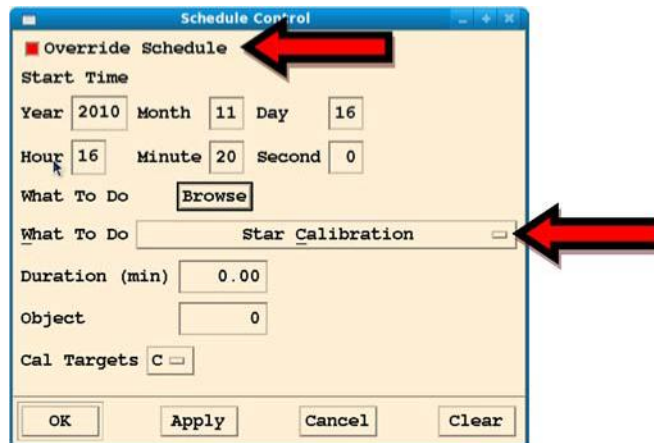

Figure 5-5: Schedule control window
- b. Open the **What to Do** pull down menu and select **Star Calibration** (if not already selected) (Figure 5-5). **DO NOT** select **Apply** yet.